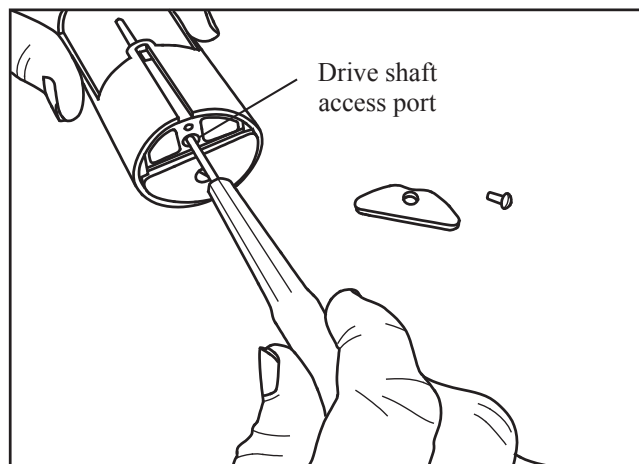
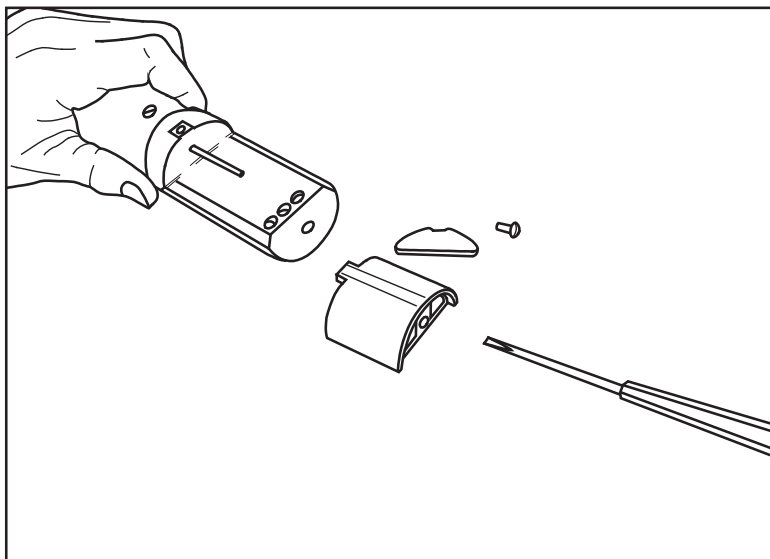

FIGURE 7-10. Insert screwdriver and rotate clockwise
FIGURE 7-11. Shutter disassembled
3. Insert a slot screw driver (2.5 mm (0.1 in.) wide blade) into the access port (FIGURE 7-10).
- Engage the end of the drive shaft and then rotate clockwise until the shutter is free (FIGURE 7-10 and FIGURE 7-11).